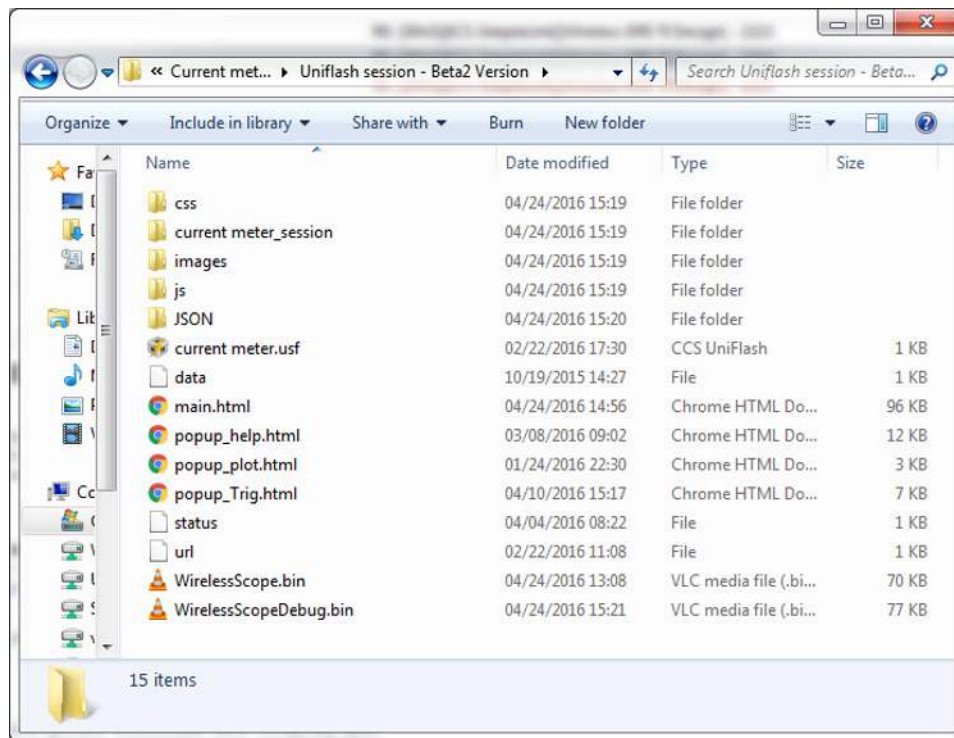

Figure 5. UniFlash Folder Example
2. Load the .ucf file located at the root of the UniFlash files folder, Figure 5 shows an example.